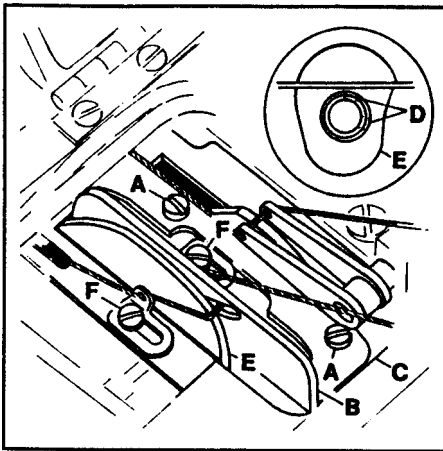

FIG. 34
Loosen screws (A, Fig. 34) and position looper thread cast-off (B) flush with the right end of cast-off support plate (C). Tighten screws (A). Loosen screws (D, Fig. 34 inset) and time take-up (E) so the thread will cast-off when the needle bar has descended 7/64" (2.8mm) from its highest position. When thread eyelets (F) are moved further to the left the amount of thread pull-off will increase.